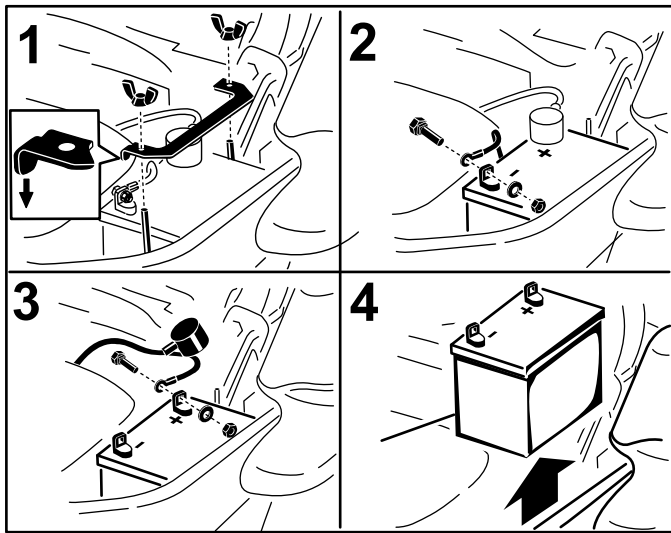

Figure 48
3. First disconnect the negative battery cable (black) from the negative (-)(black) battery terminal (Figure 48).
4. Slide the red terminal boot off the positive (red) battery terminal and remove the positive (+)(red) battery cable (Figure 48).
5. Remove the wing nut securing the battery clamp (Figure 48).
6. Remove the clamp (Figure 48).
1. Position battery in the tray with the terminal posts opposite from the hydraulic tank (Figure 48).
4. Secure the cables with 2 bolts, 2 washers, and 2 locknuts (Figure 48).
6. Install the clamp and secure it with the wing nut (Figure 48).